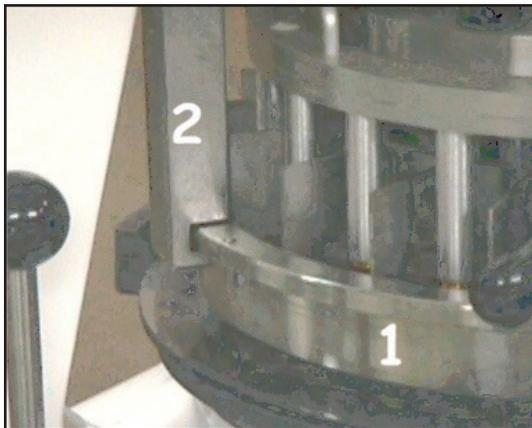

**Figure 7**
1. Remove front and rear canopies (Fig. 7, No. 5 & No. 6) by lifting up, and out.
2. Pull handle (Fig. 7, No. 1), down until ring (No. 2) is resting on pallet (No. 3).